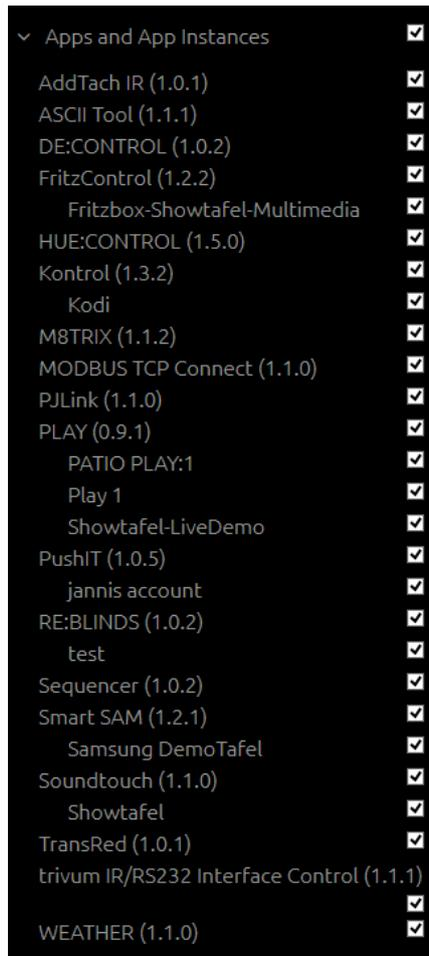

Figure 53: Selecting apps and app instances for backup
- *Apps and app instances:* Restores the app-related data. Individual apps and instances can be selected for restore from the drop-down menu (see Figure 53: Selecting apps and app instances for backup).